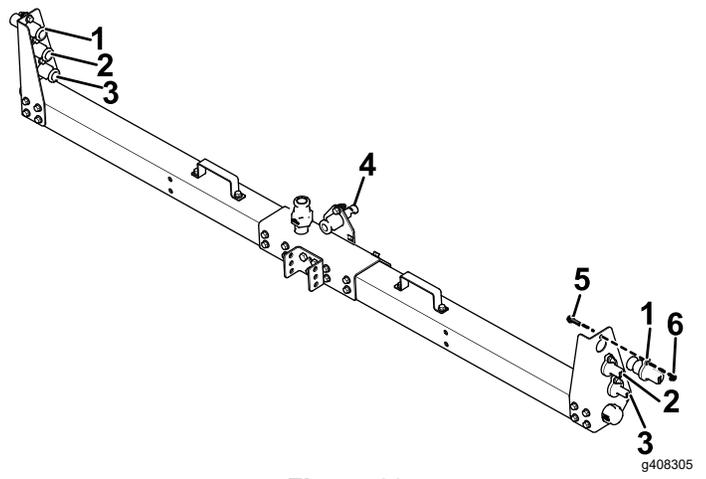

Figure 20
- 8. Install the 7 nozzles on the shroud using 7 bolts (3/8 x 1-1/4 inches) and 7 locknuts (3/8 inch). Refer to Figure 20 for the proper orientation.